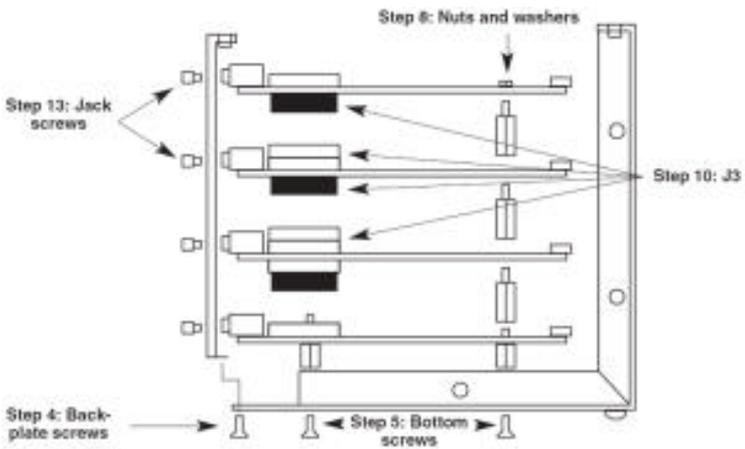

Figure 2. Exploded left-side view of a ServSwitch or ServSwitch Ultra with the maximum number of ports installed.
4. Unscrew and remove the three countersunk screws on the bottom panel that fasten the back panel to the bottom panel. See Figure 2 on the next page.
5. Unscrew and remove the three countersunk screws on the Switch's bottom panel that fasten the Switch's PCB(s) (printed circuit board[s]) to the panel. See Figure 2 on the next page.
8. Unscrew and remove the nuts and washers from the screw-ends of the standoffs that poke through the topmost PCB. There will definitely be two of these standoffs at the front of the PCB; there might also be one on the narrow right-hand end. See Figure 2 on the previous page, Figure 4 on the next page, and Figure 5 on page 9.
10. You should have received two or three new standoffs with your Expansion Board. Screw these into the screw-ends of the existing standoffs that you exposed in step 8. You should also have received an extender (spacer) for the J3 connector on the PCB that will be below the Expansion Board (see Figure 2 on the previous page, Figure 4 on the next page, and Figure 5 on page 9); plug this extender into the J3 connector, being careful not to bend the extender's pins.
11. Plug the 4-Port Expansion Board into the J3 extender you just attached, being extremely careful not to bend the Board's pins (see Figure 2 on the previous page and Figure 5 on page 9). The new standoffs' screw-ends should poke through the appropriate holes on the Board, and the Board's DB25 connectors should fit in the CPU-port slots you exposed in step 7.
13. Fasten the Board to the back panel by screwing the jack screws you removed in step 9 back in. (See Figure 2 on the previous page.)